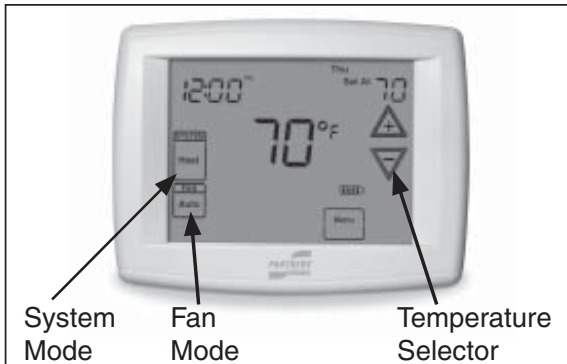

Figure 1. Typical Thermostat
1. Set the thermostat system switch to HEAT or AUTO and the thermostat fan switch to AUTO. (See Figure 1)
To Shut Off Your Air Conditioner —Set the thermostat system switch to OFF and the thermostat fan switch to AUTO. (See Figure 1)
To Operate the Indoor Blower Continuously— Set the thermostat fan switch to ON (See Figure 1)